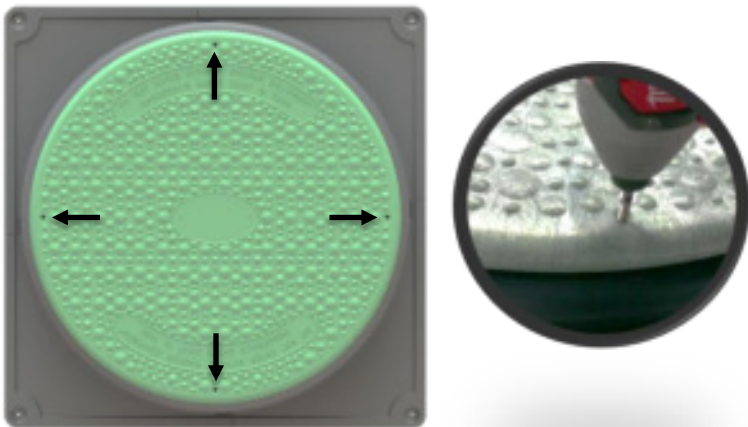

Figure 14: Cover installed
16.) **Always re-install (4) cover security screws and tighten (2 in-lbs.) with appropriate driver tool to secure riser cover to riser pipe (Fig.14)**